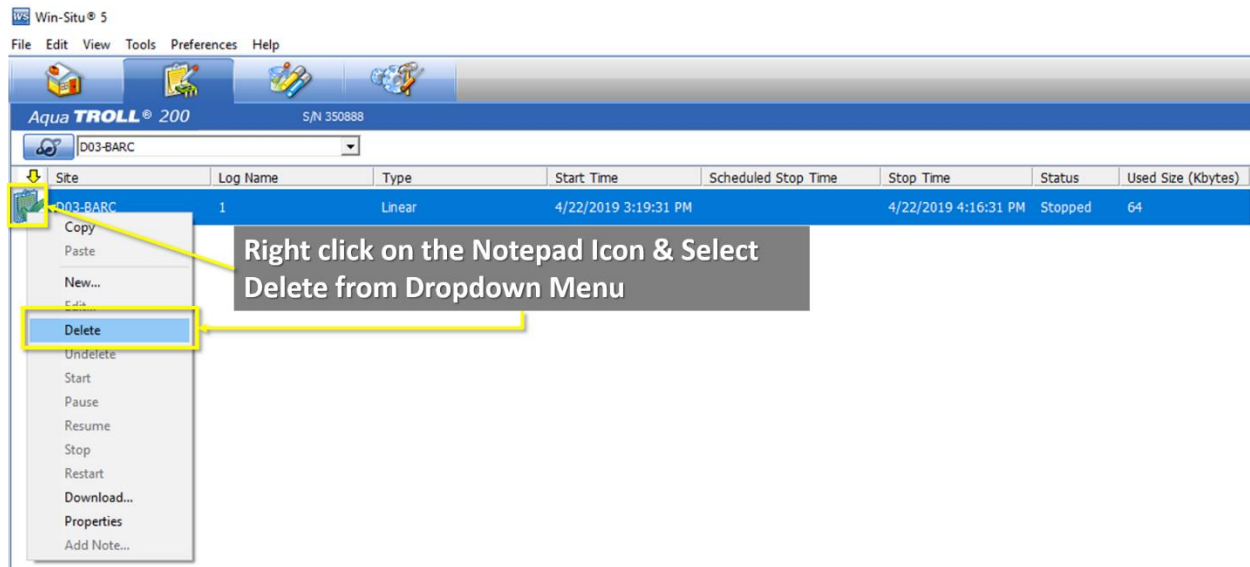

Figure 33. Right Click on the Notepad Icon of the Stopped Log File and Select “Delete”
1. Right click on the notepad icon of the stopped file and select **"Delete"** (Figure 33).